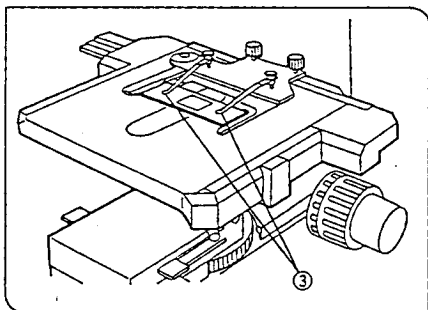

Fig. 37
Adsorption of immersion oil can cause the specimen to drift. In such cases, it is recommended to use the optional specimen clip ③ (BH2-SCB-3) for oil immersion objectives. (Fig. 37)